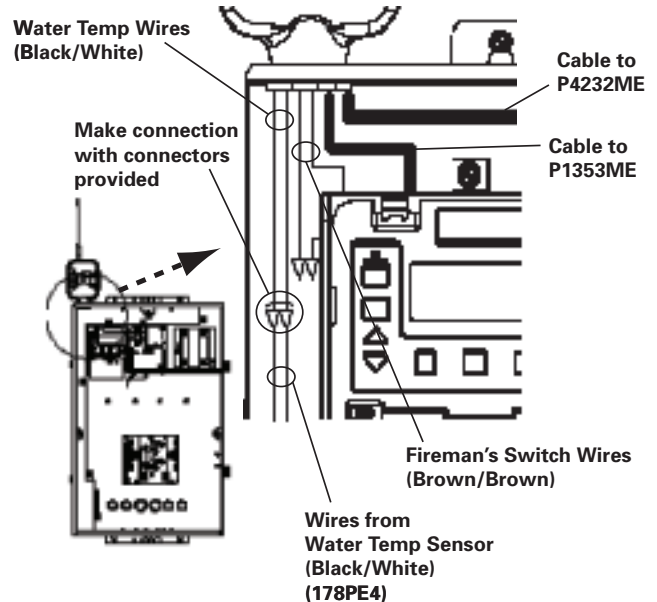

Figure 3-11
2. Run the wire to the Control Center, through the low voltage raceway. Connect both wires to the Panel-Mounted Receiver. (See Figure 3-11.)